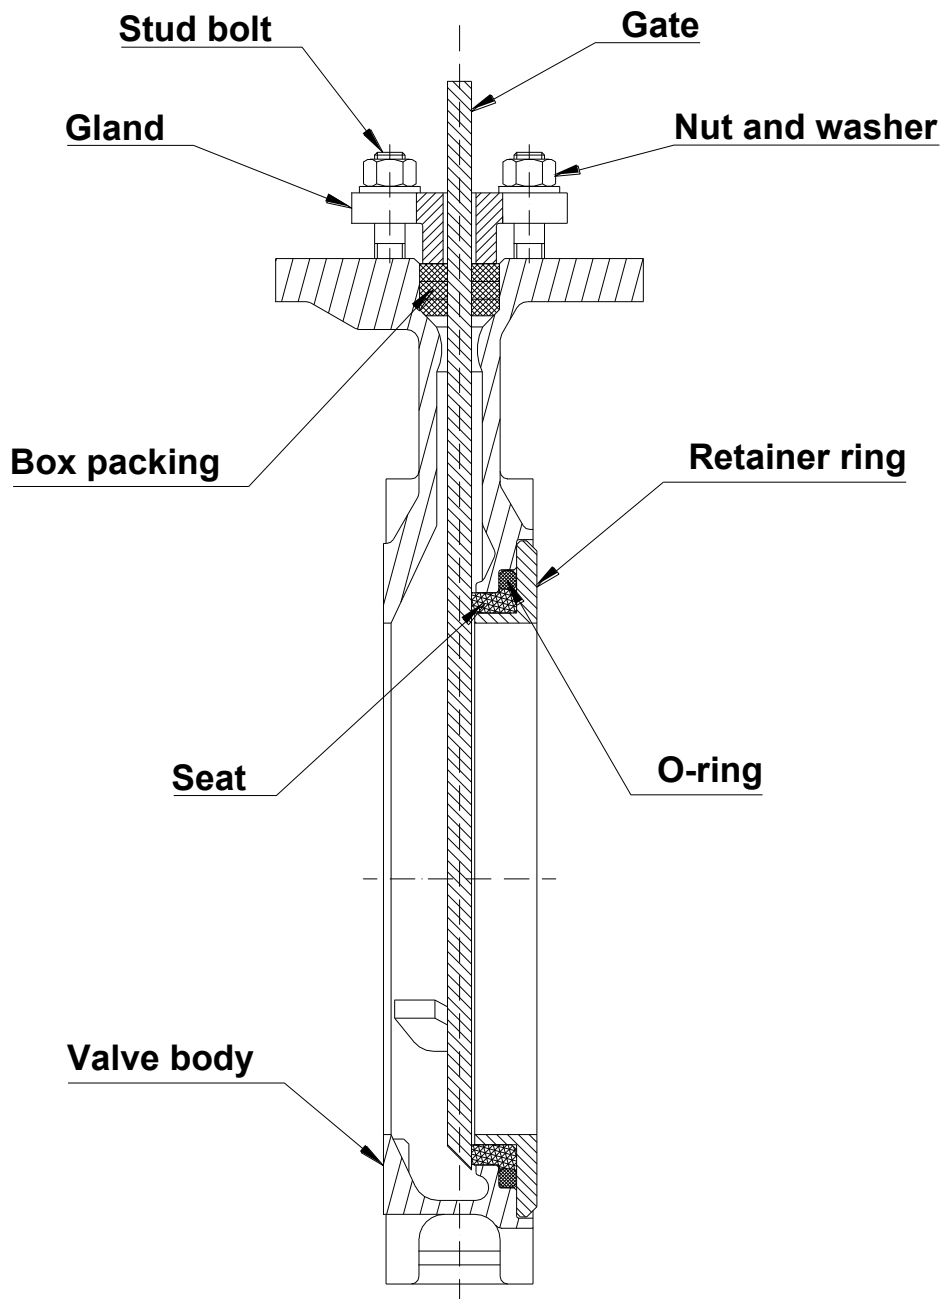

Figure 1
3. Loosen the nuts (8c) on the gland (8).
4. Lift of the gland (8) from the stud bolts (8a).
5. Remove the box packing braids (9) and box bottom (9a).
7. Remove the gate (6) and check it for damages such as dents and scrapes. If the gate is damaged it can wear out the box packing (9) and the seat (13), causing leakage. Stafsjö recommends changing the gate if it is damaged to ensure the function of the valve.
8. Check that the guide strips (14) in the valve body are not worn out and in place.
9. Install the gate (6) in the valve body (10). Check that the gate is placed correctly with the gate chamfer on the cams in the bottom of the valve body, see fig. 1.
11. Start the installation of the first braid (9) on one of the long sides of the gate (6). Use a blunt tool in plastic or wood and a hammer to push the braid into the box. Where the braid ends meet, check that the short ends are opposite each other, not on top of each other. It is important to push the first braid evenly into the bottom of the box. The joint of the second and third braid must be placed on the opposite long side of the joint of the previous braid.
12. Place the gland (8) on the stud bolts (8a).
14. Put pressure on the gland (8) by tightening the nuts (8c) gradually and crosswise. The box packing must be equally compressed all around. Recommended torque for gland nuts, see chapter D.
15. The gland (8) must put uniform pressure on the box packing (9) and be in level with the top of the valve body (10).
16. The gland (8) must also be in line with the gate (6) with the same distance between the gland and the gate all around. Check that there is no metal contact between the gland (8) and the gate (6).